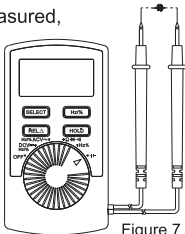

Figure 7
**6. Measuring Capacitance(See Figure 7)**